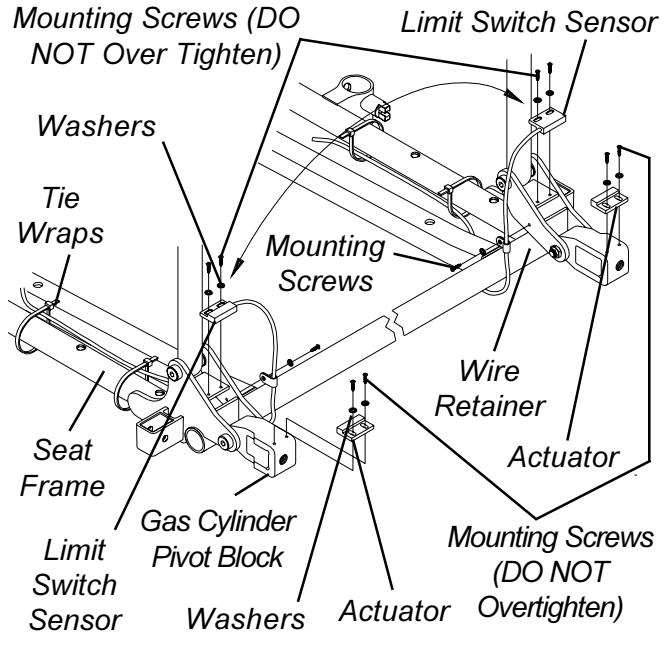

FIGURE 1 - POSITIONING LIMIT SWITCH
**POSITIONING LIMIT SWITCH (FIGURE 1)**
1. Cut the two (2) tie wraps that secure the limit switch wire to the seat frame.
2. Remove the two (2) mounting screws and washers that secure the actuator to the gas cylinder pivot block.